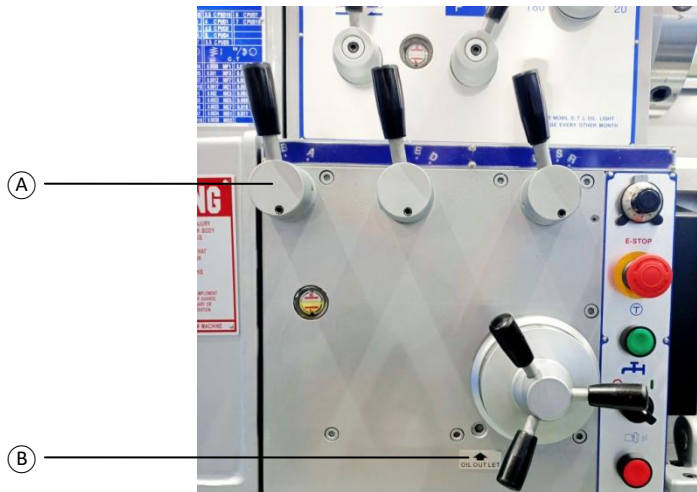

Fig.7-3
1. The oil inlet for the gearbox is located under the cover on top of the gear box. (See Fig. 7-3Ⓐ)
2. The drain is located on the left bottom side of the gear box near the 10 step feed selection dial as shown by arrow Ⓑ Fig. 7-3.